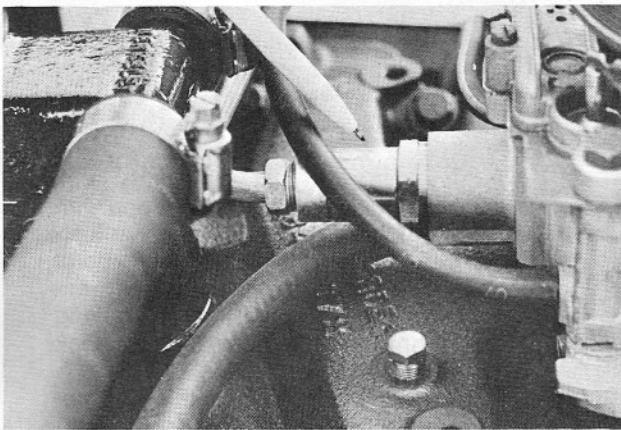

Figure 23
F. FUEL FILTER Located within the fuel line adapter fitting at the front of the carburetor is the fuel inlet filter (Figures 23, 24). It is of the paper element type and should be replaced once every 12 months.
- A. Remove fuel inlet nut, gasket and filter (Figure 23).